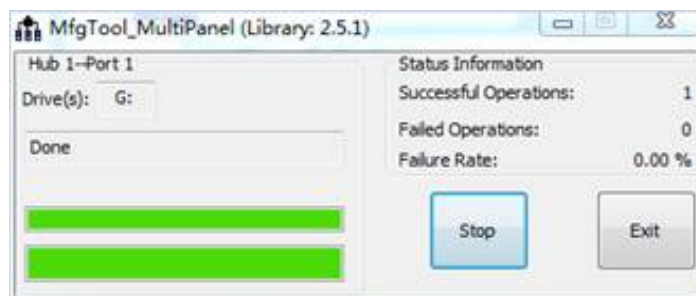

Figure 1-32 Update success
4. Wait a few minutes; if the dialog shown below in Figure 1-32 is displayed, then the update has been successful.